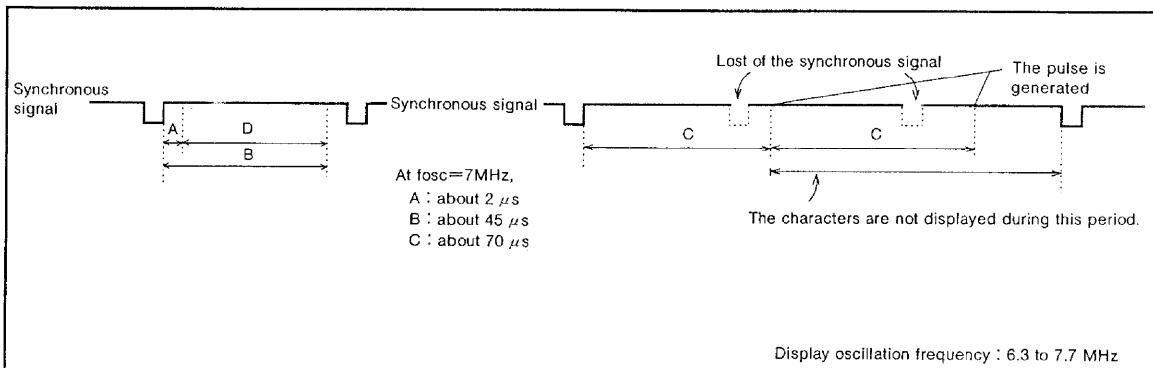

Fig. 12 Example of time base function
- (1) Time base 0—TBASE0 (DA6 of address F1₁₆)="1".
- Cut-off a noise during D period of Figure 12.
- (2) Time base 1—TBASE1 (DA7 of address F1₁₆)="1"
- Generate the pulse if the synchronous signal has not input during C period of Figure 12. And stop to display the character till the next synchronous signal is input.